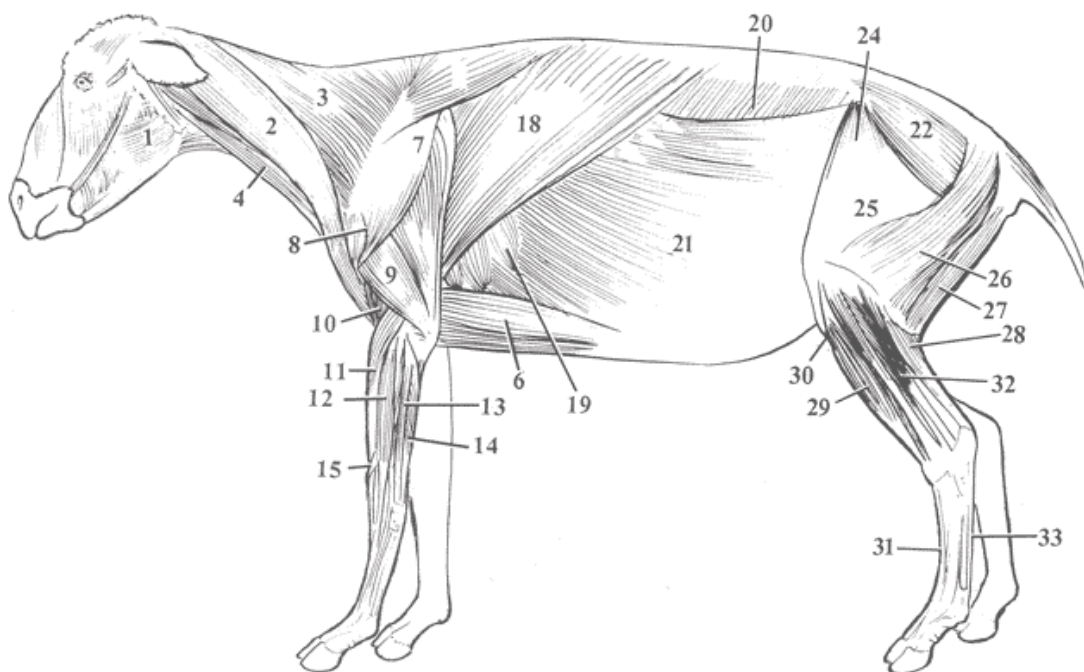

Figure 4: The muscles of sheep
The heart has four valves, two on each side. They serve to stop any backflow of blood. The valves between the atria and the ventricles are called the atrio-ventricular (AV) valves. The valve that stops the backflow of blood from the aorta to the left ventricle is called the aortic valve and the valve between the pulmonary artery and the right ventricle is called the pulmonary valve (Figure 4). Cardiac muscles are supplied with blood via the coronary arteries.